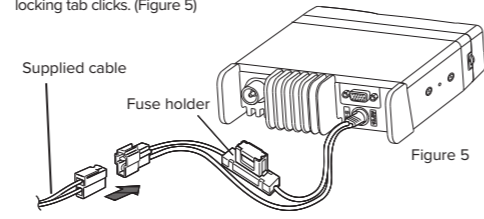

Figure 5
6. Connect the DC power cable to the transceiver's power supply connector. Press the connectors firmly together until the locking tab connectors firmly together until the locking tab clicks. (Figure 5)